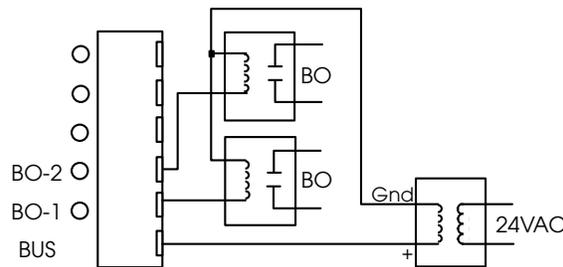

Figure 10. Wiring for Digital Outputs
2. Connect the output wiring to the screw terminals on the module as shown in Figure 10.